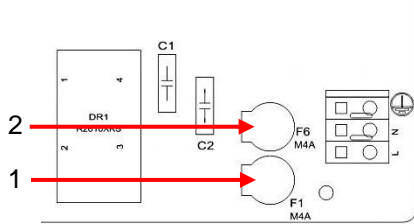

Figure 37
5. Remove both the sight glass holders (see figure 37).